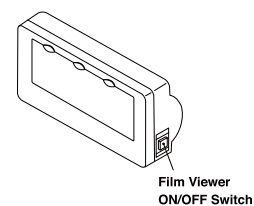

Fig.3-19 Dental Size Film Viewer
(7) Dental Size Film Viewer (Optional) (Fig.3-19)